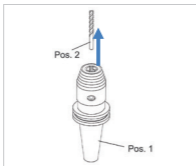

Figure 8: Removing tool
2. Remove the tool (item 2) from the location bore of the precision drill chuck (see "Figure 8: Removing tool").